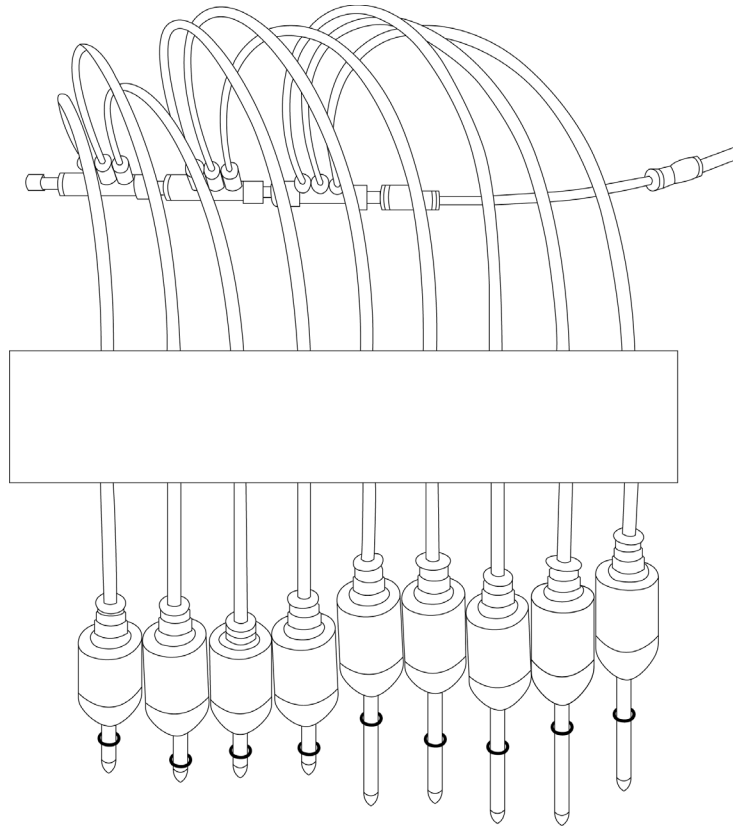

Figure 2. Apparatus with tensiometers
2. Equipment to mount the shaft refilling adapters (see Figure 2)
3. Shaft refilling adapters including tubes (e.g., from HYPROP refill unit – Beaker Mount (part no. 020256)) (see Figure 2)
3. After saturation, completely empty the tensiometer shafts, screw them in the refilling adapters and place them in the water-filled container as shown in Figure 2.